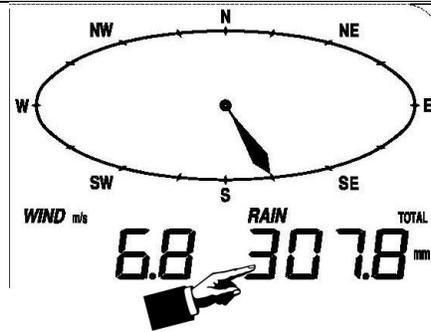

Figure 14
1. Touch the rain once, as shown in Figure 14. The rain will begin flashing and the button and button will be flashing (in the tendency section of the display).